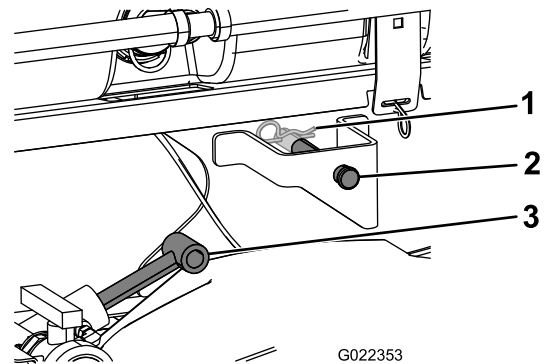

Figure 10
- Extend the lift cylinders to the brackets on the tank skid, and align the cylinder arms with the holes in the tank skid brackets (Figure 10).